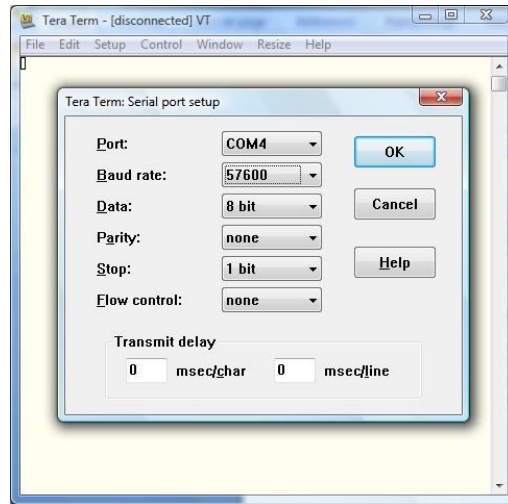

Figure 10 : Serial Port Setup
4. In Menu bar, click on the Setup menu and select Serial Port, choose the Port (COM1, COM2, COM3, COM4) where you cable is connected on, configure the Speed to 57600 and click OK. (Figure 10).